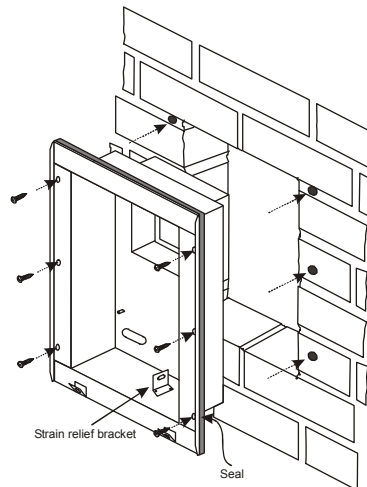

Figure 58 – Fan Housing
1. Apply the seal to the rear section of the Fan Housing as shown in **Figure 58**.